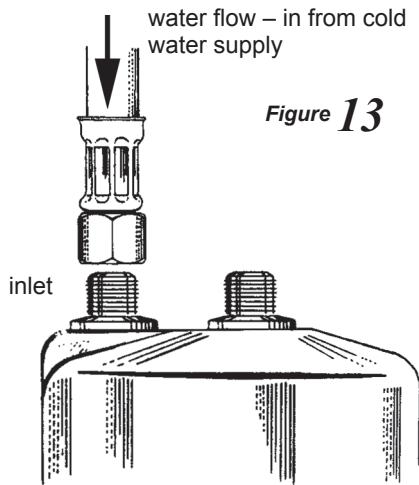

Figure 13
1. Attach Connector Hose from the cold water supply valve to the Inlet Port on the Housing. Tighten connections (Fig. 13).